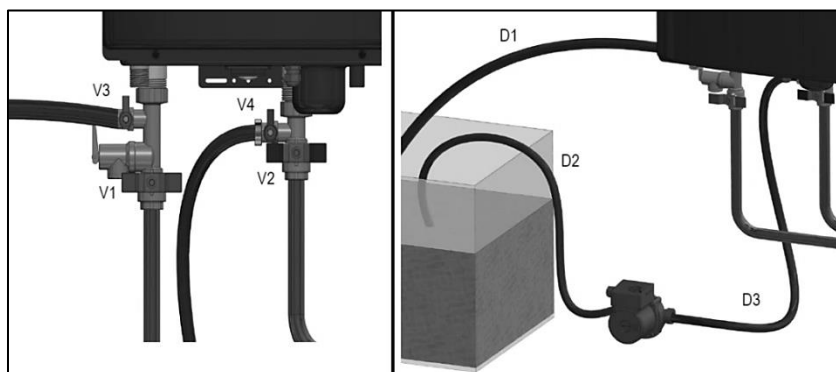

Figure 59 – A – Valve, and B – Hose Connection Details
2. Close the shutoff valves on both CH supply and CH return lines (V1 and V2). See Figure 59.
3. Connect one hose (D1, Figure 59) to the valve (V3) and place the free end in a bucket. Connect one of the hoses (D3) to the circulation pump outlet and the cold water inlet line to valve V4. Connect the other hose (D2) to the circulation pump inlet and place the free end in the bucket.